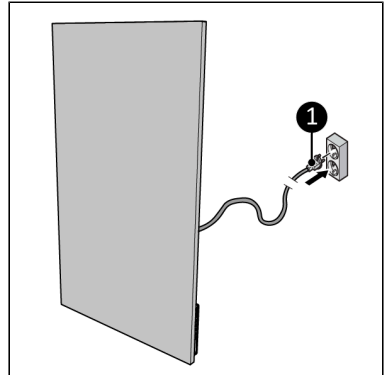

Figure 20.
2. Insert the power plug (Figure 20, pos. 1) into an earthed wall socket that is easily accessible. Use an earthed wall socket with a minimum power of 1000 Watt.